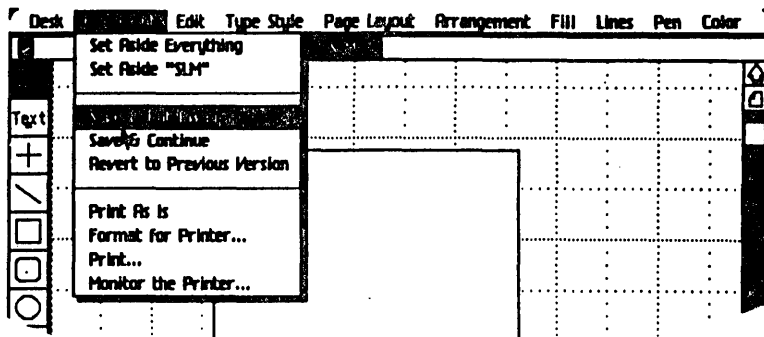

FIGURE 5
11. Use the mouse to pull down the "File/Print" menu and select "Save and Put Away". (See Figure 5, below).